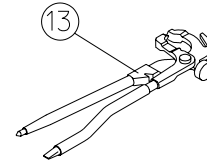

Figure 3 - Plier
**Weight Pliers** (Figure 3). Versatile weight hammer/plier. In addition to hammering on weight and used weight removal, the hammer/plier can be used to reshape worn weight clips and trim weight to size.